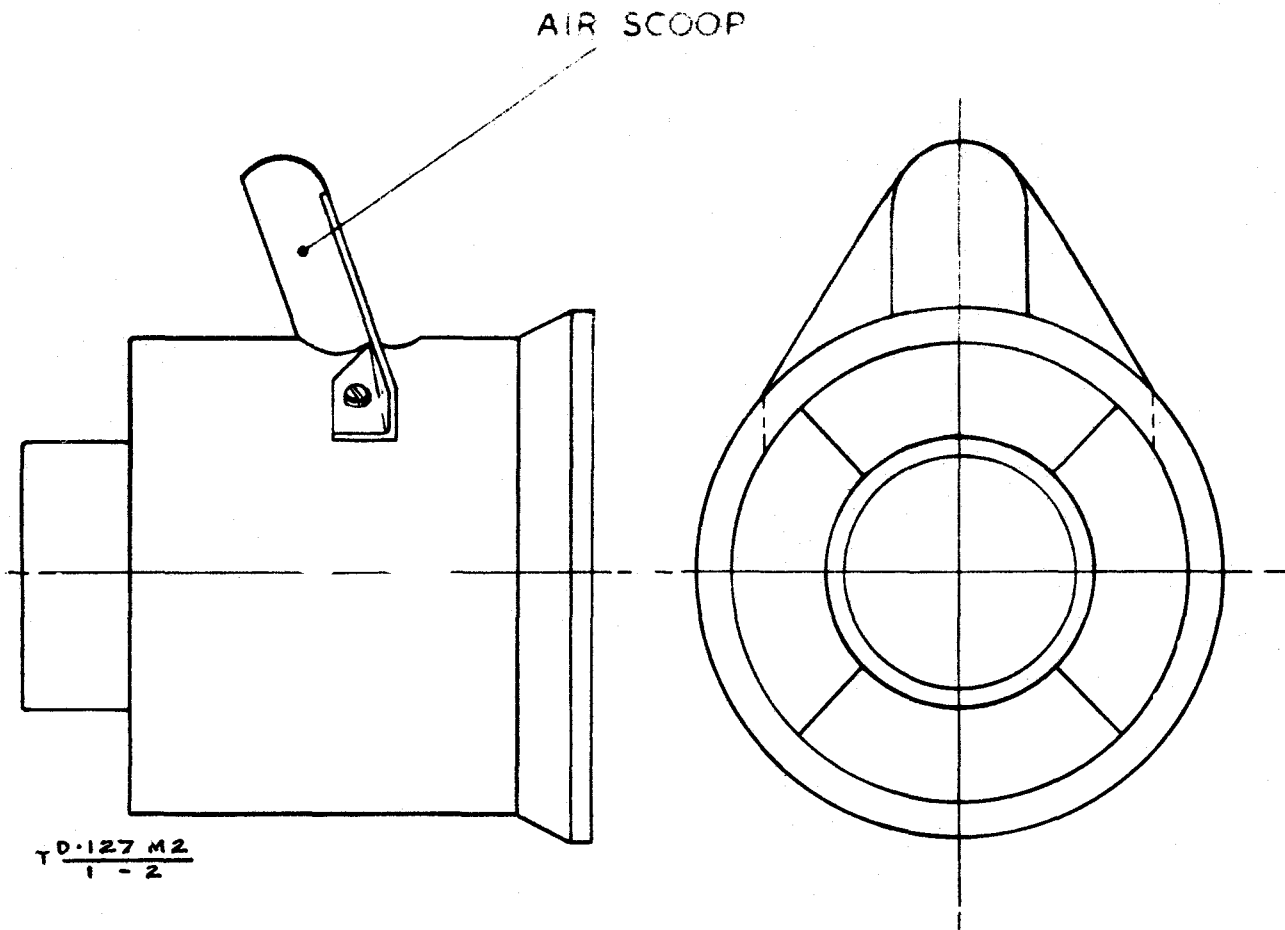

Fig 2 - Fitting details for scoop
- (iii) Ensure that the figure 2 on the equipment modification record plate is struck through after modification.
- (iv) If equipments are received which have been modified as described in this regulation, but on which the figure 2 on the modification record plate has not been struck through, this will be done before returning the equipment.
- (e) Fit the Scoop, air flow (ZA 54049) to the housing as shown at Fig 2 using two No 6 BA screws and washers.
- (m) Strike through the figure 2 on the equipment modification record plate.